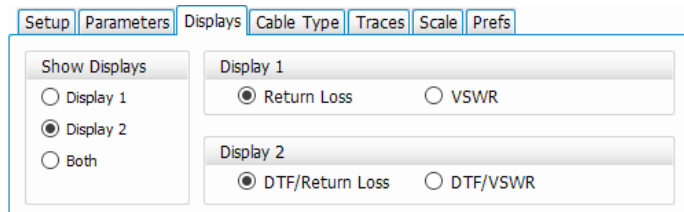

FIGURE 5. DTF setup in SignalVu-PC.
5. Click on the Displays tab, select DTF/Return Loss for Display 2, and then select Display 2 in the Show Displays panel to view the DTF/Return Loss display only as shown in Figure 5.